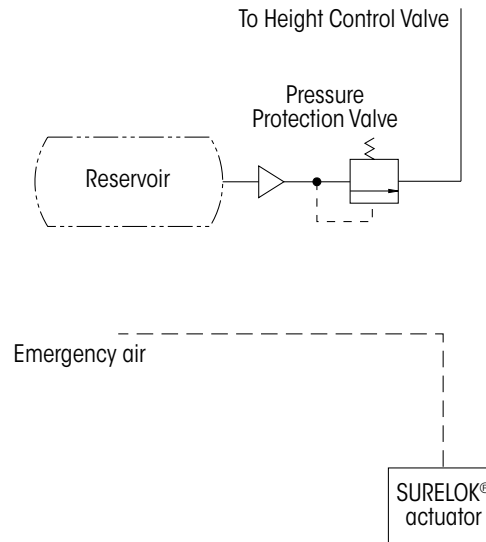
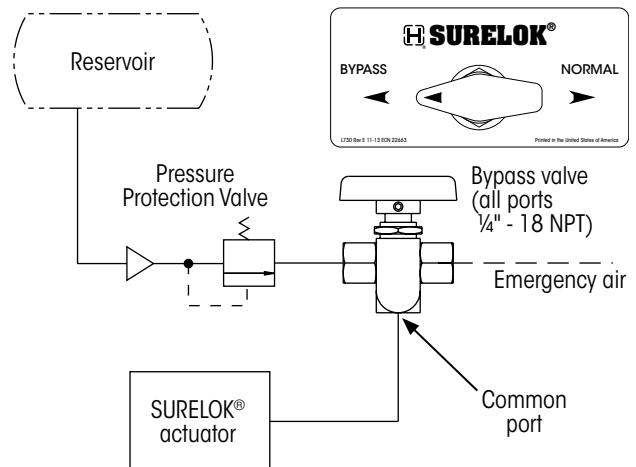

Figure 77: Typical plumbing schematic
Figure 78: Manual bypass valve plumbing schematic
2. Reference the applicable plumbing diagram, Figure 77, Figure 78 or Figure 79, and plumb the trailer according to the control kit option used.
No valve included — Standard (typical) operation. With this air control kit (Figure 77), SURELOK engages automatically when the parking brake is applied and disengages automatically when the parking brake is released. No provision is made to bypass SURELOK (there is no bypass valve) and the trailer is not equipped with air suspension exhaust capability (there is no air dump valve).
disconnecting it from the trailer's parking brake system (Figure 78). This bypass operation is accomplished by manually turning a control valve from the **normal** position to the **bypass** position. With SURELOK® bypassed, the suspension can be exhausted onto the internal air spring bumpers using a separate or previously-installed manual air suspension dump valve.